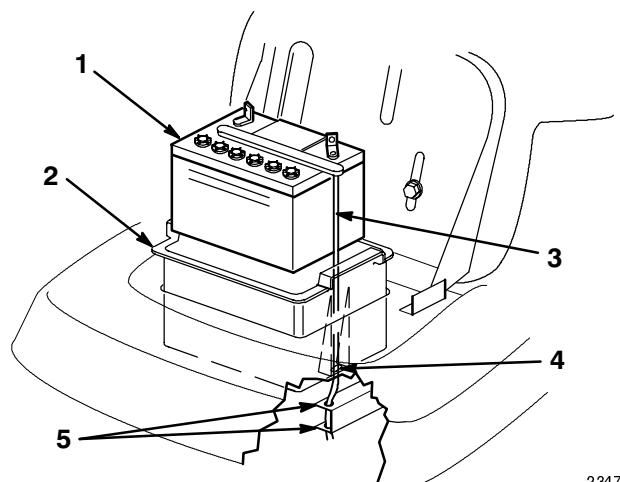

Figure 21
5. Remove the battery box, battery, and long vent tube from the chassis (Fig. 21).
1. Put the battery into the battery box and slide the vent tube into the channel and through the slot in the bottom of the box (Fig. 21).
**IMPORTANT: Look down into the cut out area where the battery box fits into the chassis. Notice the hole at the end of the right frame member (Fig. 21). Always install the long battery vent tube through the hole to prevent battery acid from corroding the tractor and mower.**
2. Install the battery box and battery into the chassis (Fig. 21). Make sure to slide the end of the vent tube through the hole in the frame (Fig. 21).